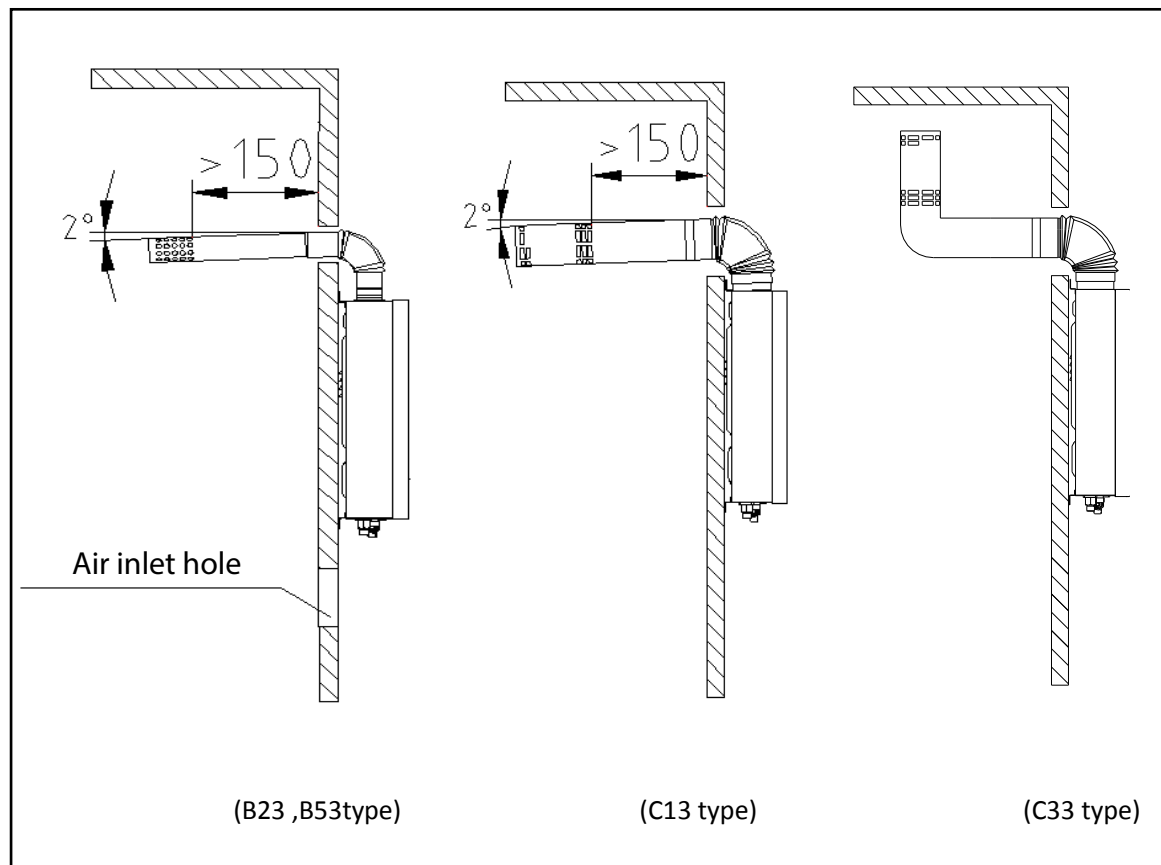

Fig. 11
- (1) Please use the flue supplied by our company, referring to Fig. 11 about the installation method. If the flue duct is too short, you can extend it aptly. Check the flue duct and see if there is any damage or leakage every half a year.
- (2) The length of the flue duct should be less than 8m,
- (3) The horizontal distance of the flue duct is the shorter the better. The flue duct end should have a 2° downward inclination (Fig. 11), so as to let the condensing water flows out.
- (1) Please use the flue supplied by our company, referring to Fig. 11 about the installation method. If the flue duct is too short, you can extend it aptly. Check the flue duct and see if there is any damage or leakage every half a year. Install the flue after the heater body is fixed. First, put the fixed flue through the hole in the wall, then insert the elbow into the exhaust outlet of the heater smoothly, the flue end should have a 2° downward inclination (Fig. 11), otherwise the rain may flow into the heater and damage it.
- (2) The length of the flue duct should be less than 4m, and the number of elbows should not be more than 4 ( one elbow equivalent 1m straight pipe).